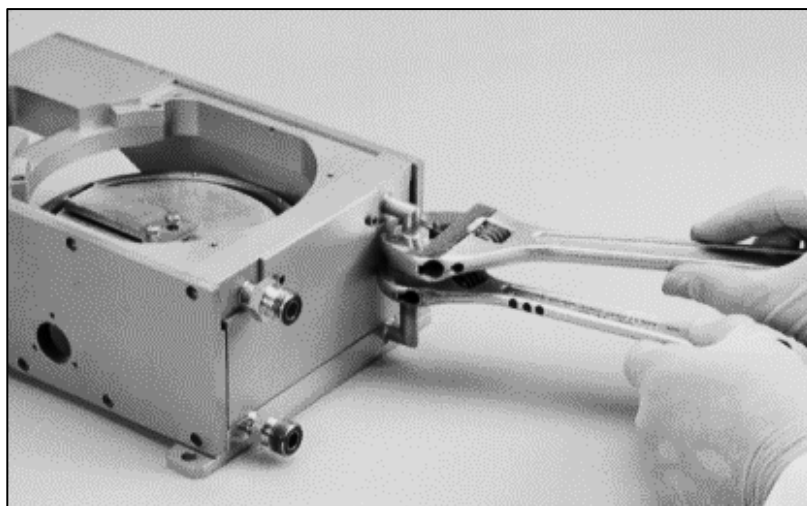

Figure 5-7. Uncoupling the Water Crossover Tube
Step 10: Uncouple the tube connecting the gun's upper and lower water circuits. Using appropriate wrenches, hold the nut soldered onto the fitting connected to the coil housing while turning the coupling on the fitting connected to the base plate (see Figure 5-7).